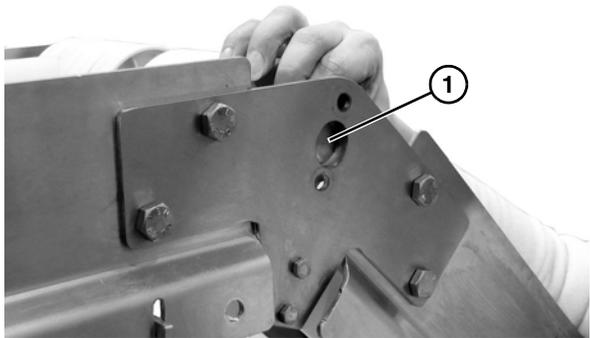
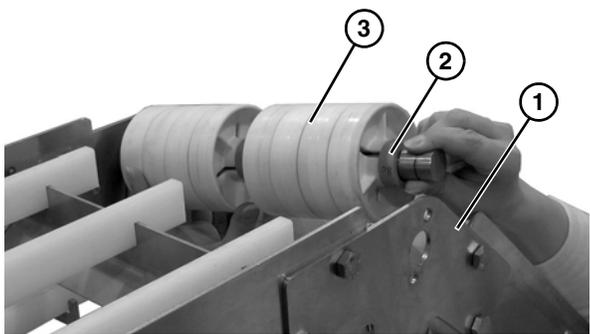

Figure 62
Figure 63
- Slide shaft (**Figure 62, item 1**) inwards to remove from knuckle frame (**Figure 63, item 1**).
Spacer (**Figure 63, item 2**) and pucks (**Figure 63, item 3**) are loose and can slide off the shaft.